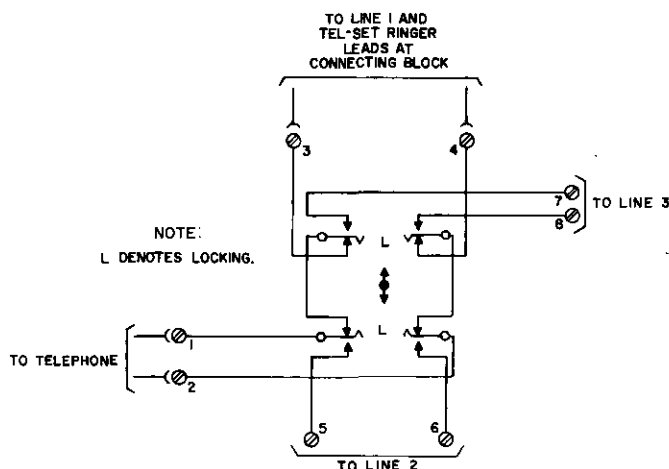

Figure 10. Three-Line Pickup with Ringer Association.
- (1) Disconnect the ringer leads (i.e., one lead from the ringer coil and one lead from the associated capacitor) from their usual termination on the network in the instrument.
- (2) Connect the ringer leads within the telephone set to spare line cord conductors. If necessary, change the line cord to provide the additional two conductors, and the connecting block to provide a termination for them.
- (3) Run the station wire for line 1 to the connecting block, and terminate it on the terminals for the ringer leads, rather than for the line leads (Figure 10).
- (4) Using four-conductor station wire, connect to the instrument line leads